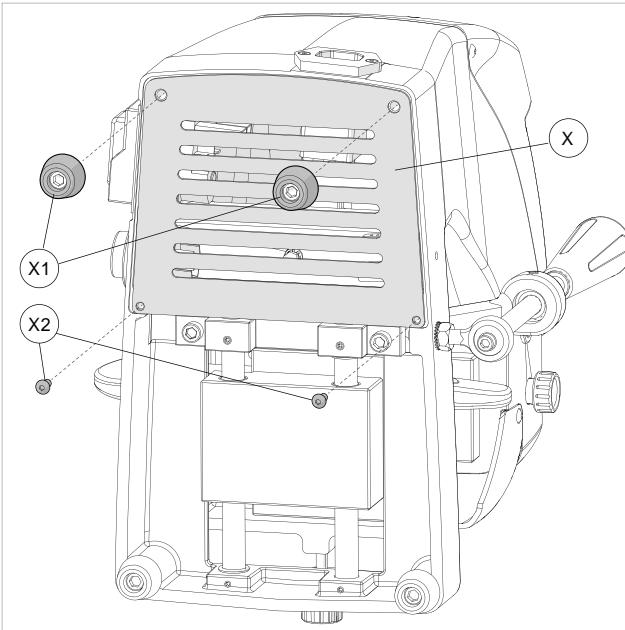

Fig. 44
- 2) Loosen the 2 feet (X1), 2 screws (X2), and remove the bottom plate (X) (Fig. 44).